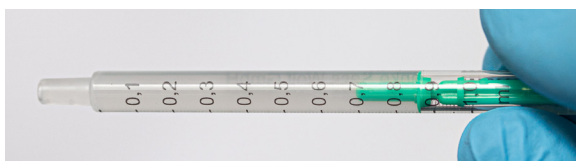

Figure 2. Slowly draw 850µL of the sample.
4. Use a 1mL syringe to slowly draw an 850µL aliquot of the liquefied semen specimen (sample). If there is insufficient sample volume, add media to bring volume to 850µL (Figure 2).